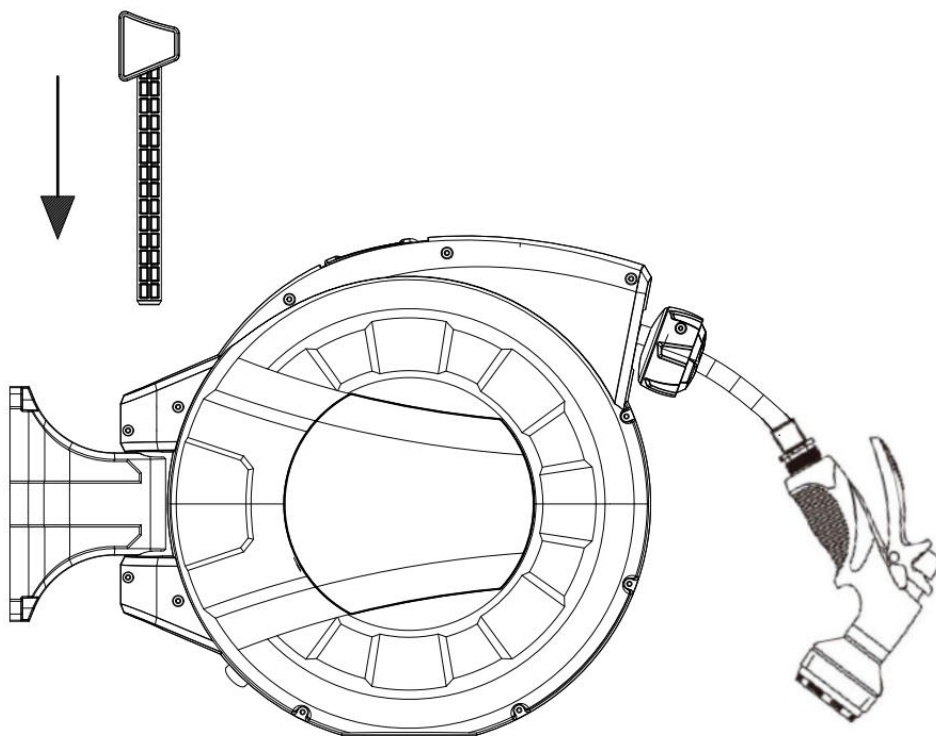

Fig.3
5. Connect the reel to the mounting bracket. (Fig.3)